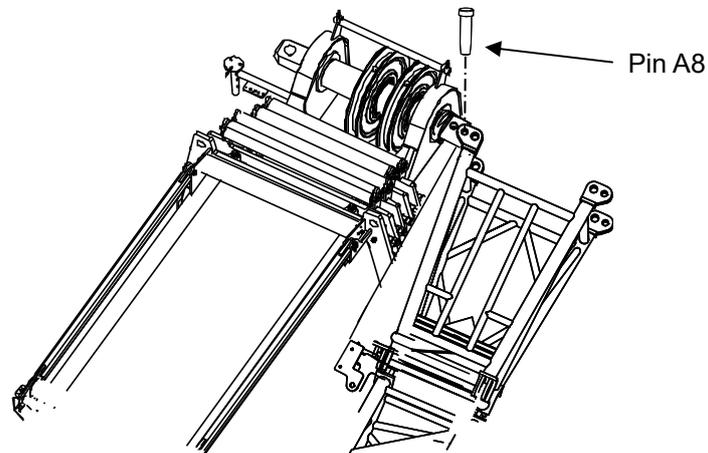

Figure 5-7 Pin A8 installation
- i) Align the end of the jib with the connection points on the right side of the telescopic section VII head. Install the pin A8 and the retaining clip. Refer to Figure 5-7.